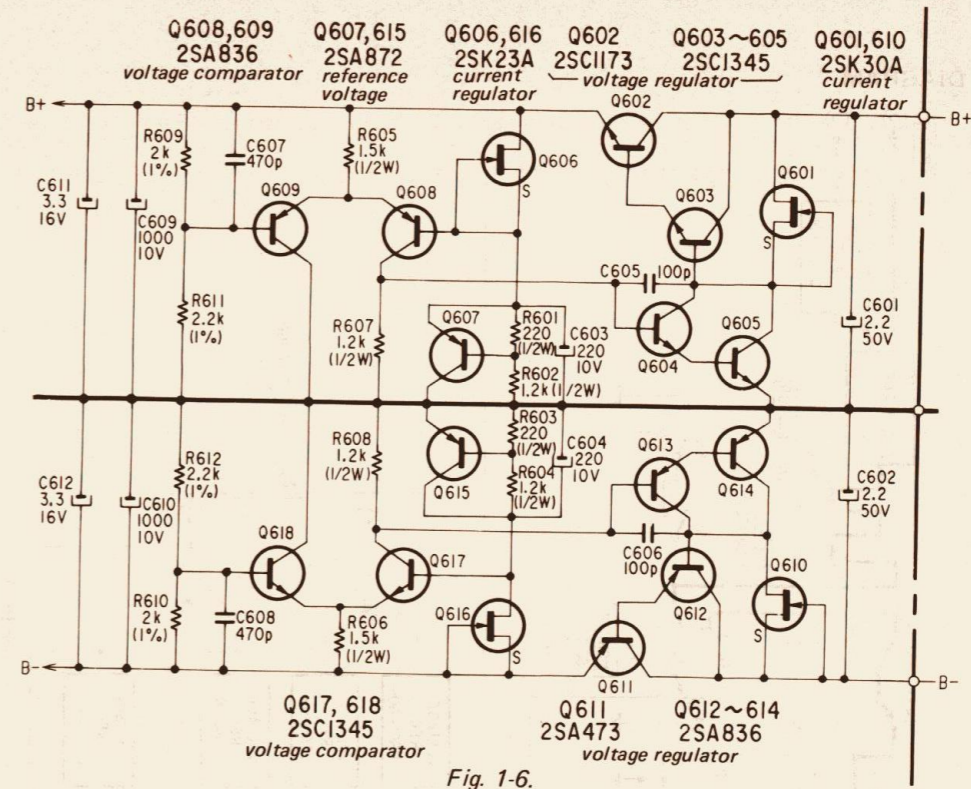

Fig. 1-6.
**Power Supply Circuit (See Fig. 1-6)**